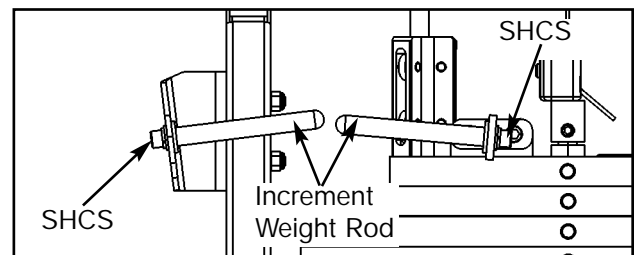

Figure 9
- A. Securely tighten the SHCS securing the increment weight rod (located on the weight stack). See Figure 9.
- B. Securely tighten the SHCS securing the other increment weight rod. See Figure 9.